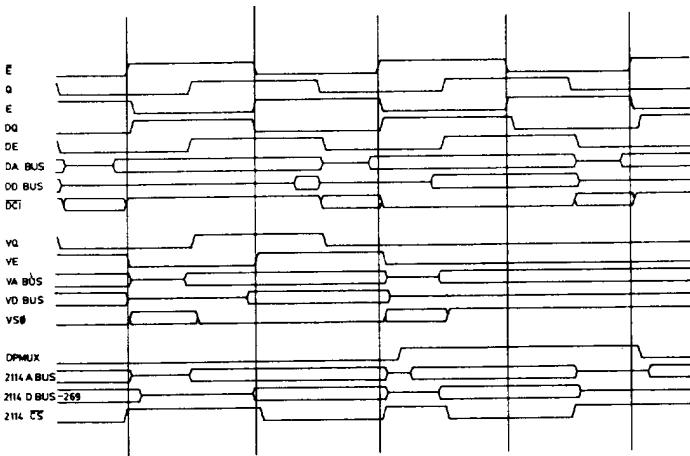

FIGURE 3-2 PORT RAM TIMING
1. The Data Processor runs in quadrature with (one quarter clock cycle ahead of) the Video Processor. In other words, E is inverted for use as DQ, and Q becomes DE. Refer to Timing Diagram, Figure 3-2.